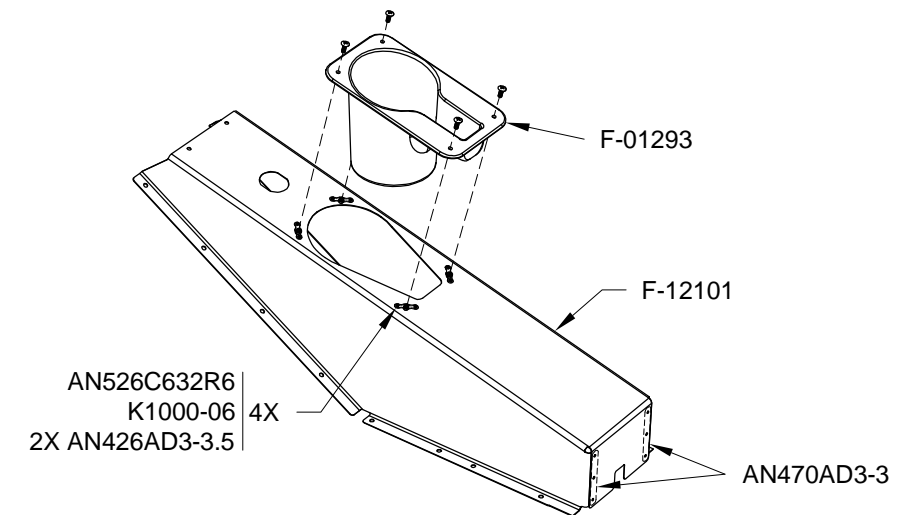

FIGURE 4: INSTALLING THE CUP HOLDER
Step 5: Dimple #40 the nutplate rivet holes in the F-12101 as shown in Figure 4. Dimple #40 the nutplates, then install the nutplates on the F-12101 with the rivets shown.
Step 6: Rivet together the sides of the F-12101 with the rivets shown in Figure 4.
Step 8: Install the F-01293 using the hardware shown in Figure 4.